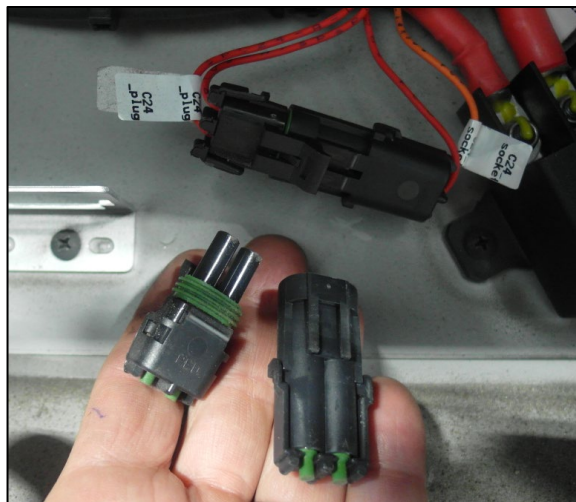

FIGURE 2
3. Remove the plug on both connectors and keep it in a safe place (Figure 2).